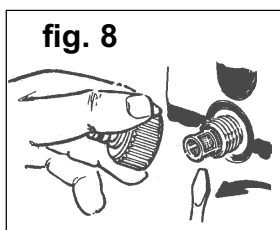

fig. 8
5.2. Check and clean suction filter (fig. 8) and **detergent filter** (at the end of the detergent pick-up pipe) after every 50 hours of use.